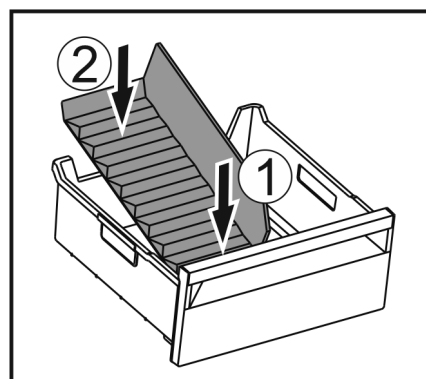

Fig. 132
- ▶ Insert the front part of the ice compartment divider. *Fig. 132 (1)*
- ▶ Lower the rear part of the ice compartment divider to the drawer bottom. *Fig. 132 (2)*